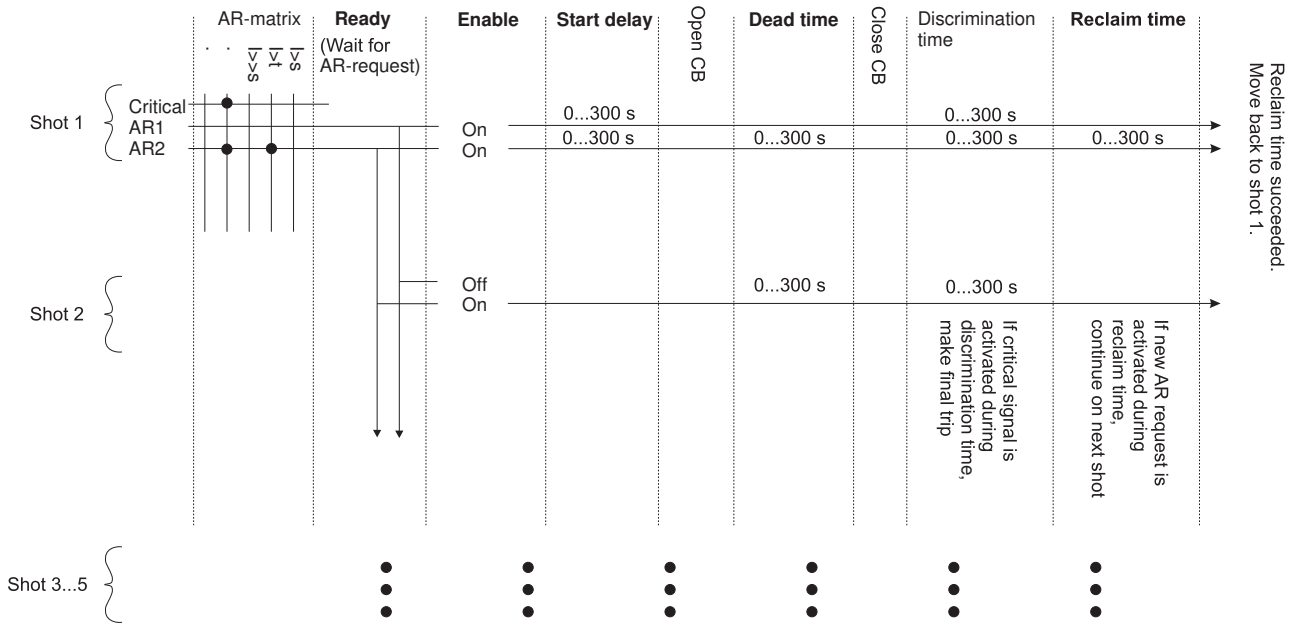

Figure 8.4: Auto-reclose matrix
The auto-reclose (AR) matrix in the following Figure 8.4 describes the start and trip signals forwarded to the auto-reclose function.